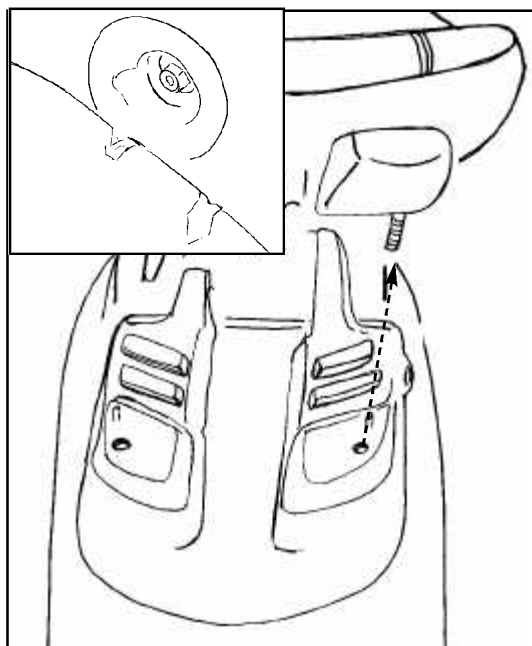
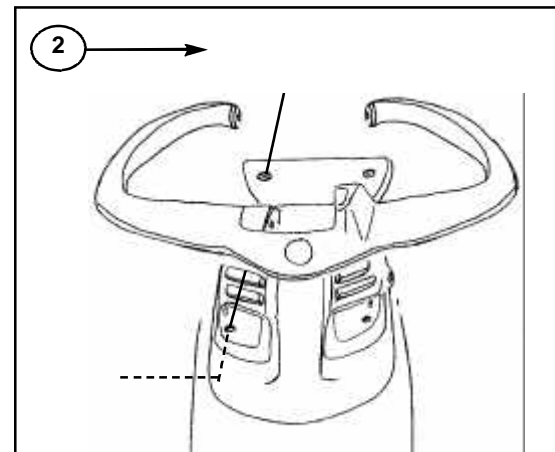

Figure 3.
Figure 4.
Position holes of hand rail with fender cover. Fix in place with the M6 x 50 flat head screws (2) through the hand rail, the fender cover, the chassis, and the fender. Fasten from inside the fender, with the 6 mm nuts and washers removed in preparation step reference figure 3. **Do not tighten.** Figure 4.